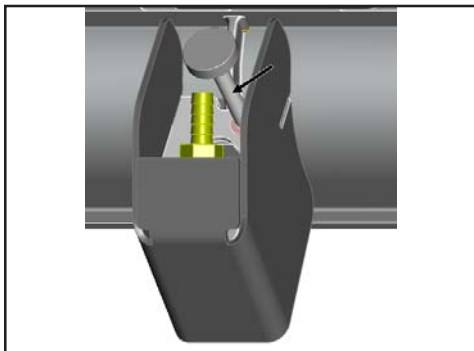
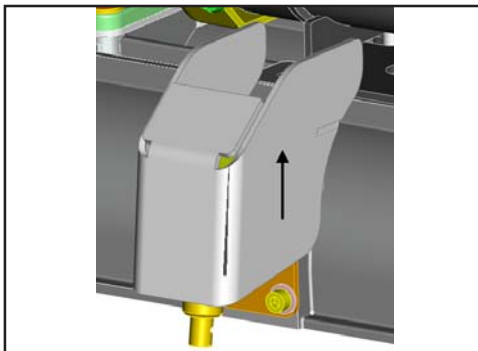

Figure 1
Figure 2
2. Loosen the lower wing nut (**B**) on the adjusting screw (**A**) and adjust the squeegee using the adjusting screw so that the ends of the squeegee blades still have contact with the floor. By turning the adjusting screw (**A**) counterclockwise, the clearance between squeegee blade and floor is **increased** in the center (Fig. 1). When turning the adjusting screw (**A**) clockwise, the clearance between squeegee blade and floor is **reduced** in the center (Fig. 2).
1. Remove knob located above sprayjet (Figure 1).
2. Pull sprayjet cover up and hold for easy access to spray tip (Figure 2).